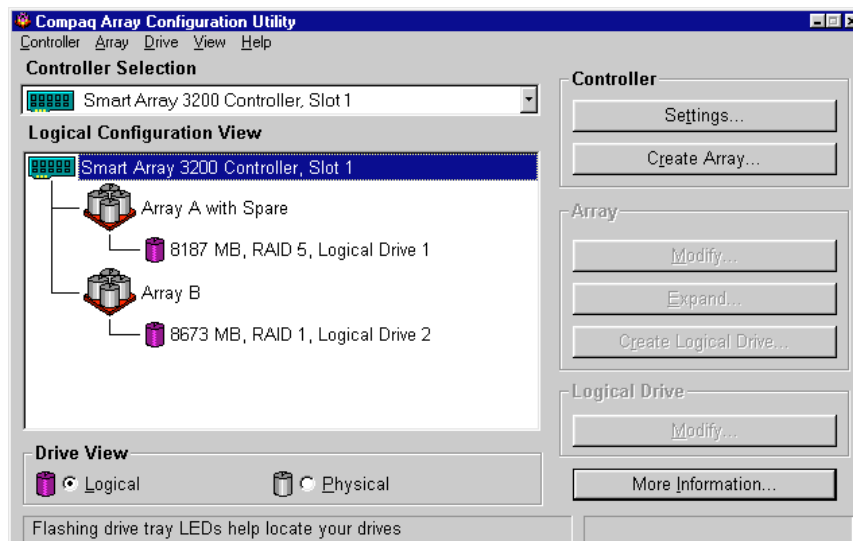

Figure 5-8. Example array - Configuration View screen with two arrays
10. The Configuration View screen should look like Figure 5-8.